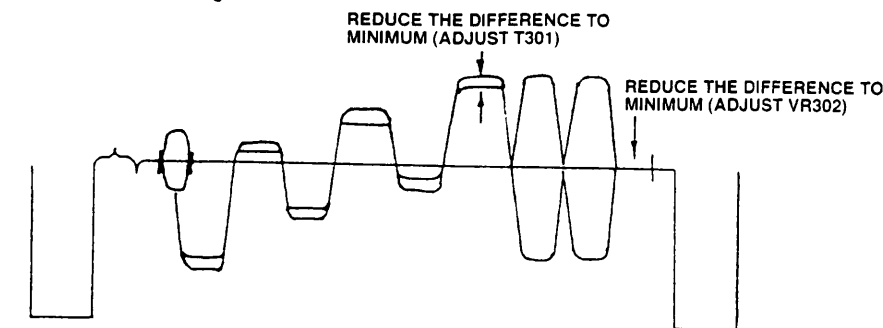

Fig 5.
- 4: Adjust T301 and VR302 to obtain the waveform as fig 5.